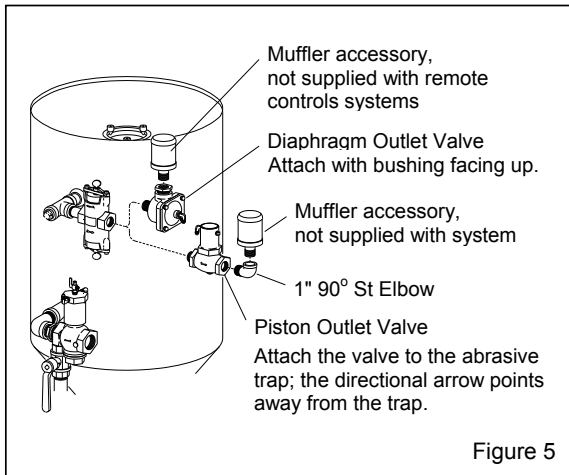

Figure 5
2.2.4 Install the piston or diaphragm outlet valve and muffler as shown in Figure 5.
Clemco supplies an exhaust muffler with all blast machines of 2 cu. ft. capacity and larger. The muffler reduces exhaust noise and prevents abrasive from exhausting upward or sideways into the air. When the blast machine is depressurized, the muffler body will pop up to diffuse the air and abrasive. When the machine is fully depressurized, the muffler body will drop, permitting trapped abrasive to empty. For the muffler to work properly, it must be installed with the body facing up, as shown in Figure 5.